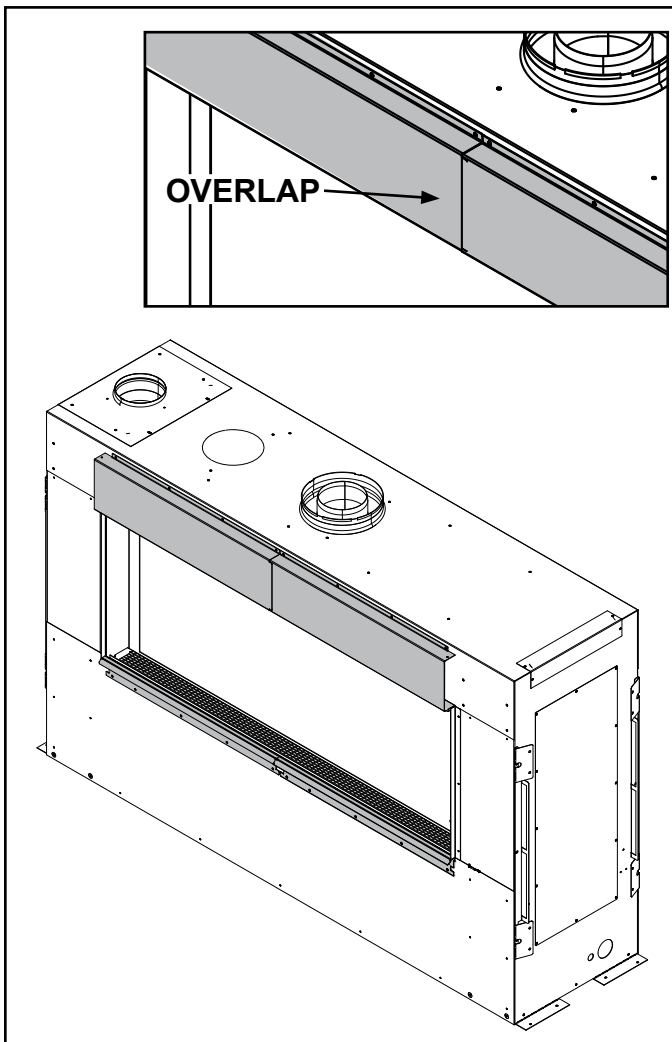

Figure 9 Top Panels Installed Overlap Detail Shown
3. Install the top left panel by aligning the bottom ledge of the panel with the left side sheet rock ledge. The top left panel will overlap the top right panel as shown in Figure 9. Install the screws in the top flange of the top left panel.